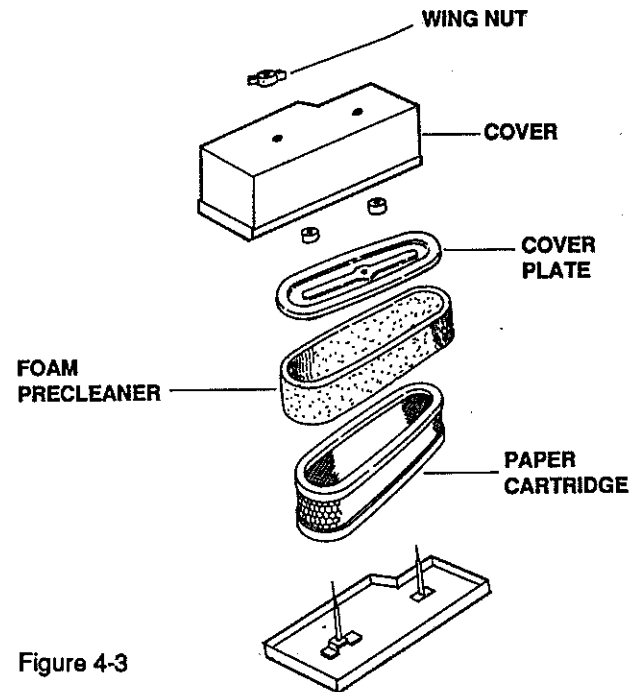

Figure 4-3
2. Briggs & Stratton - 12, 12.5, 16, and 18 HP Air Cleaner, Figure 4-3 and 4-4.